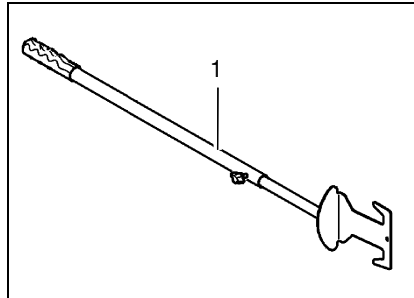

Fig.16
In the cabin beneath the driver's seat an auxiliary tool is kept (Fig. 16/1). This auxiliary tool has the following functions:
2. Use the auxiliary tool (Fig. 16/1) to carefully clean the vacuum nozzle.